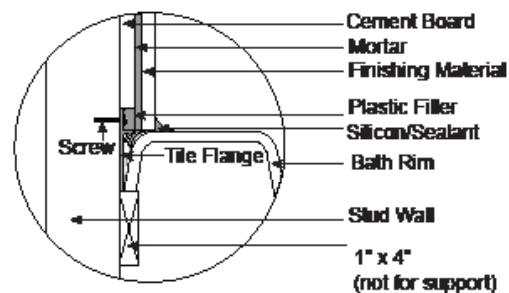

Fig. 13
2. Place the bathtub into the niche. Screw the flange to the wood stud. It may be necessary to shim the unit to close up any gaps between the wood stud and the flange (Figure 13).